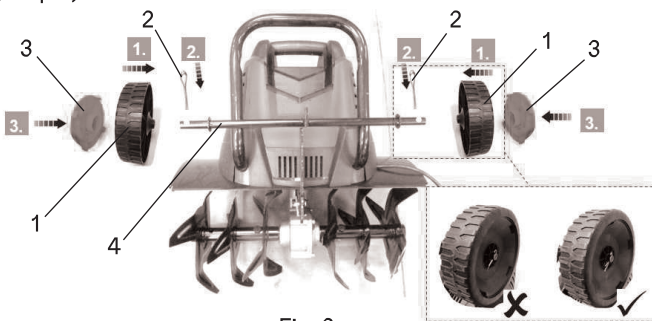

Fig. 3
1. Remove the wheel cover (3) from the wheel (1) using a flat head screwdriver (not included) (Fig.3).
2. Align and pass the mounting hole of the wheels (1) through the wheel shaft (Fig. 3, step 1).
3. Insert the splint (2) through the holes of wheel shaft (4), and secure the cotter pin (2) by separating two tips of cotter pin(2) with a flat head screwdriver (not included) (Fig. 3, step 2).
4. Reattach the wheel cover (3) to the wheel (1) until you hear an audible click (Fig. 3, step 3).